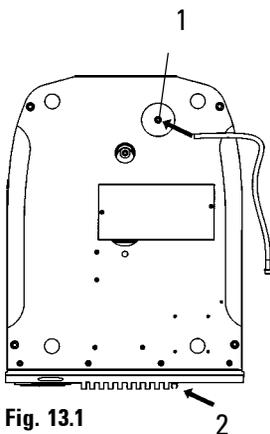

Fig. 13.1
- Connect the drain tube (Fig. 13.1) of the cooling bath at the underside of the instrument (1).
- Secure the loose end of the drain tube in the holder at the rear of the instrument (2).